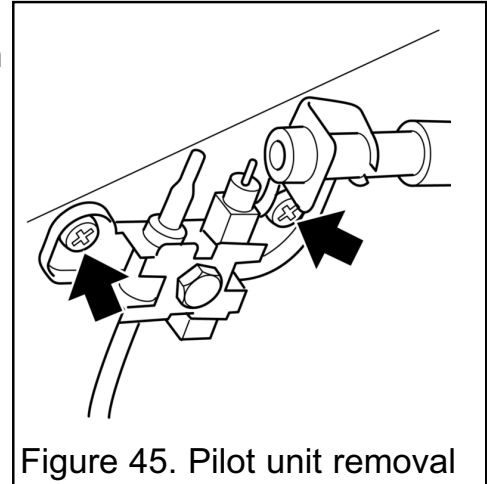

Figure 45. Pilot unit removal
6. Remove the two screws securing the pilot unit (See figure 45).